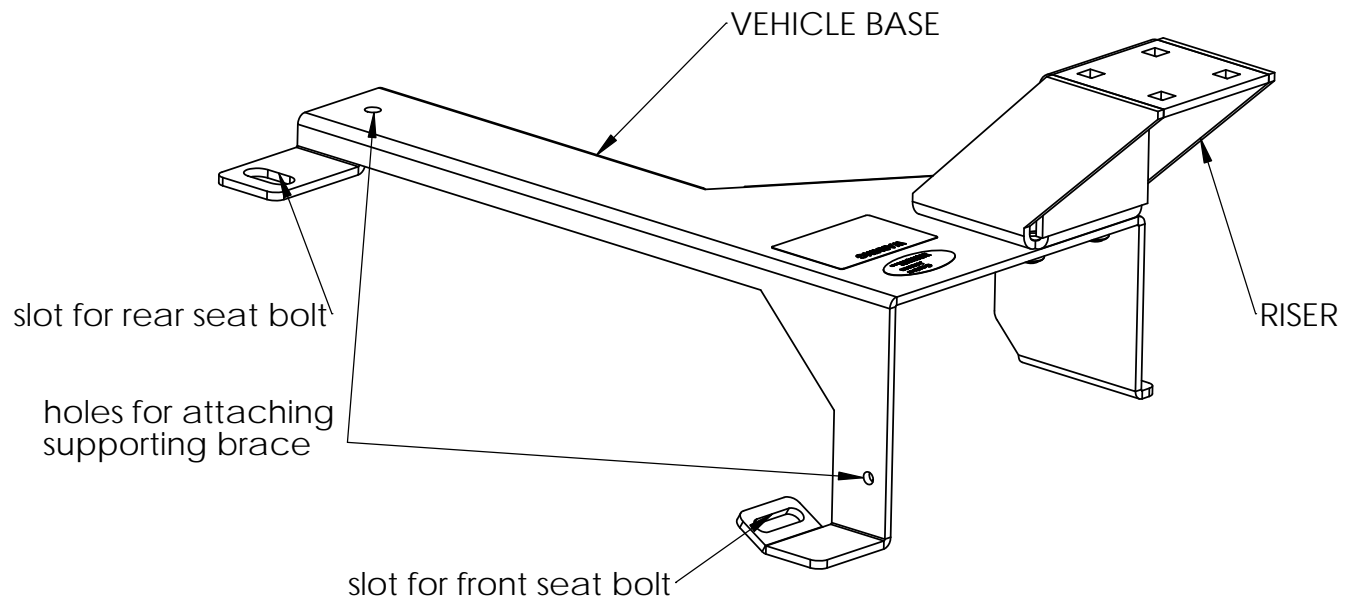

Figure 1
5. A Support Brace (not provided) could be installed using the mounting holes (see Figure 1) on the base. This requires 1/4-20 bolt (not provided).